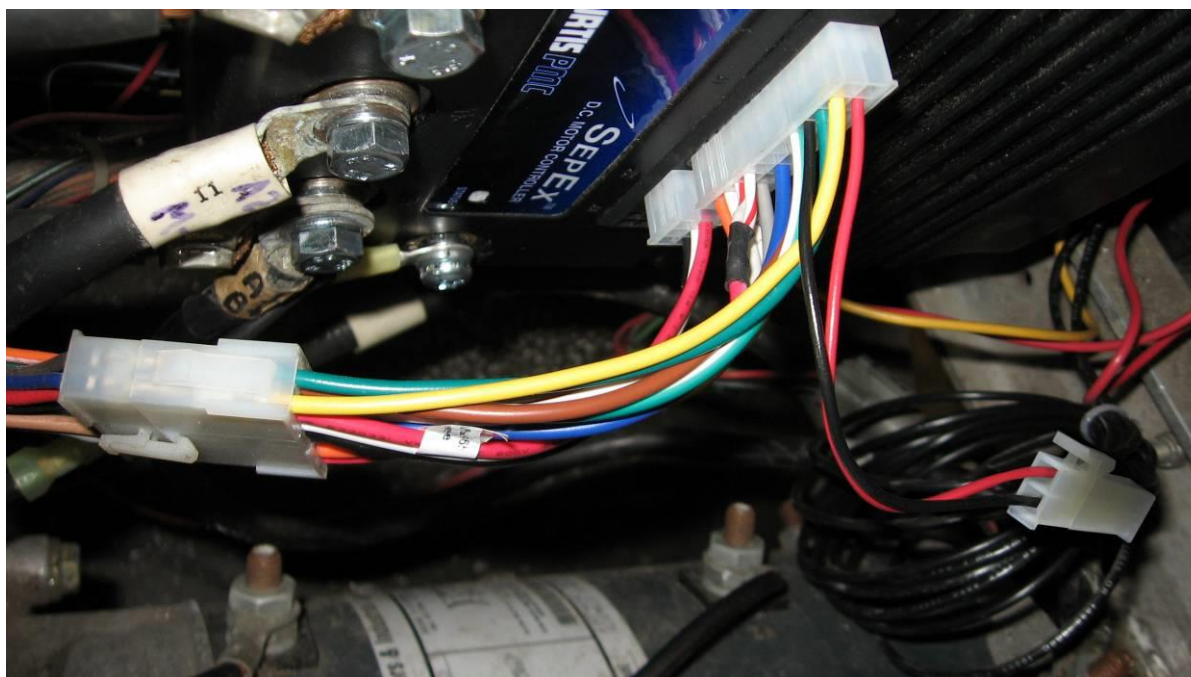
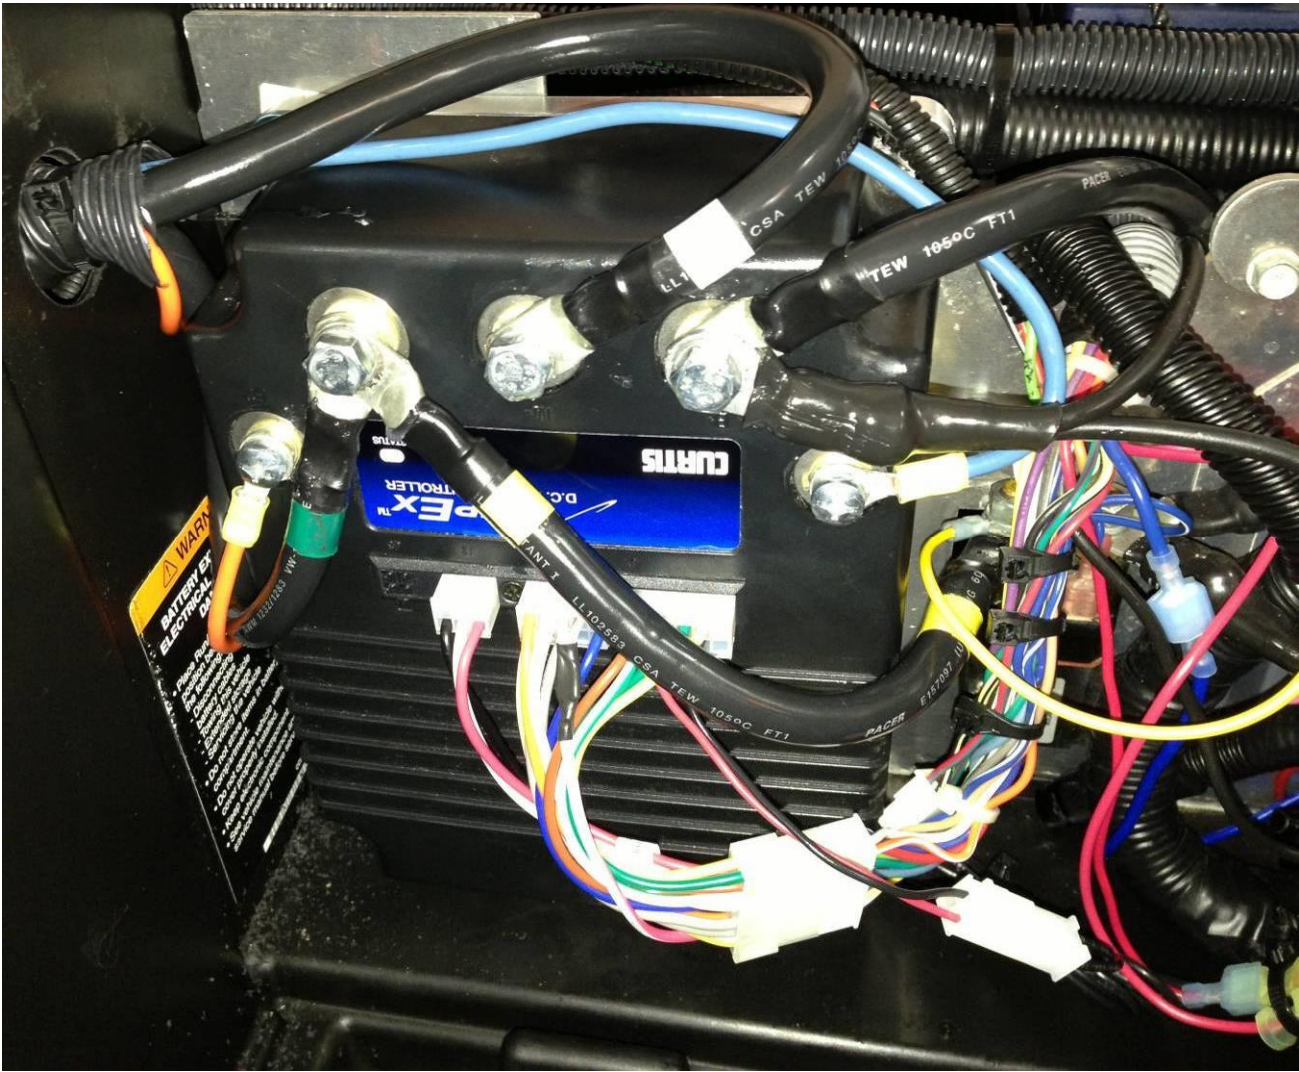

Figure 26
Figure 27
16. Plug the 24pin connector and 6pin connector of the harness provided in to the controller. Plug the 16pin connector in to the vehicle and the 2pin connector in to the Walkaway harness connector as shown below (Figure 26). For installation in the Precedent use the image on the following page (Figure 27).